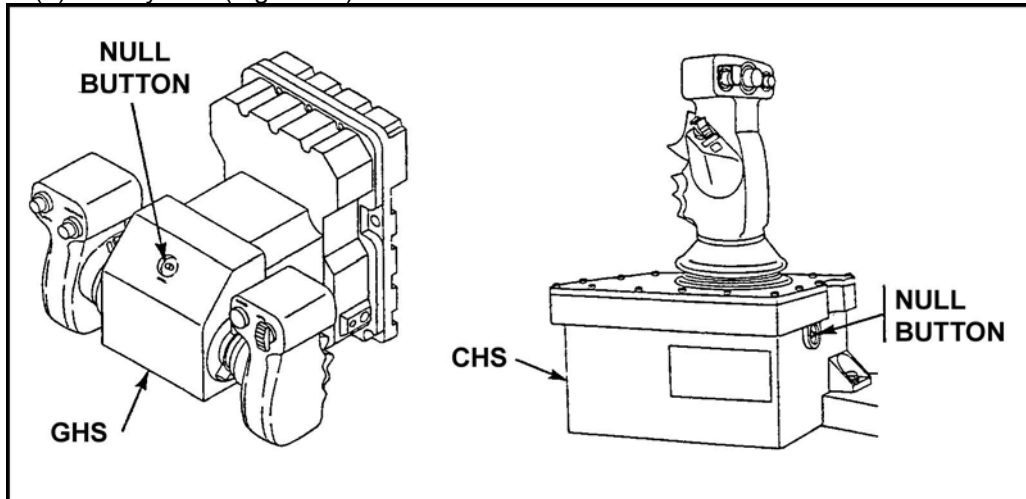

Figure 13. GHS and CHS NULL button.
- (1) Unload and make weapons safe.
- (2) Unstow CIV.
- (3) Position vehicle on level surface (slope indicator bubble at the drivers station is within the black inner ring).
- (4) Null system (Figure 13).